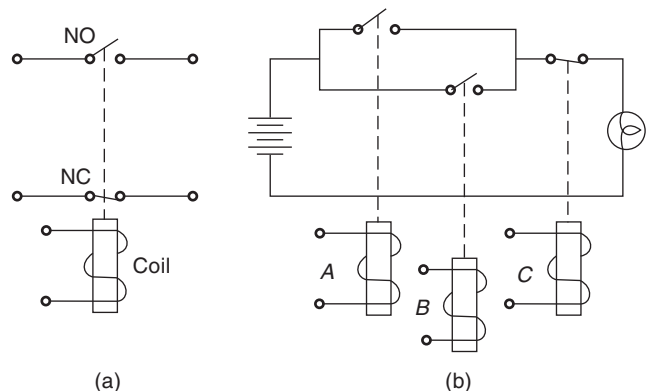

Fig. 7.18 Typical Relay Symbols and Relay Logic Circuit.
The position of the relay contacts when the coil is not energised is known as the *normal position*. A relay may have *both* normally open (NO) and normally closed (NC) contacts as in Fig. 7.18(a). In Fig. 7.18(b) we have a simple relay circuit for controlling a light bulb. The light will be lit if relay A *OR* relay B is energised *AND* relay C is *NOT* energised.